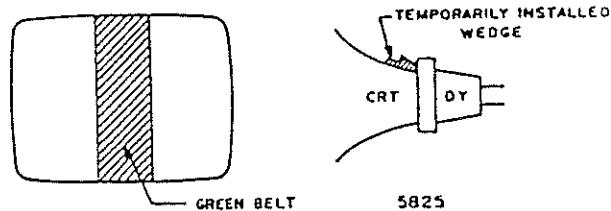

FIG. 4
8 Pull the Deflection Yoke backward so that the Green belt will appear. (See Fig. 4).
- 14 Turn all three cut off controls fully counterclockwise (CCW). Slowly turn up (CW) the Red cutoff control until a red raster is just barely visible.
- 17 Insert a wedge temporarily as shown in Fig. 4 and adjust the angle of the Deflection Yoke.